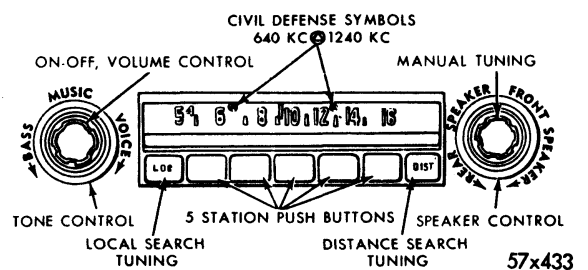
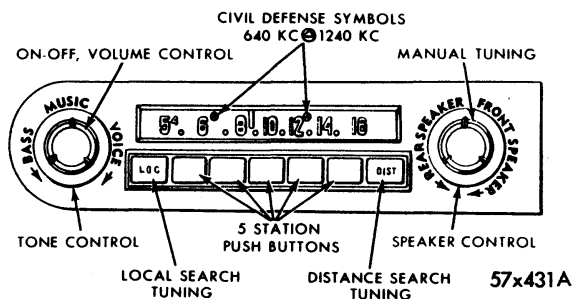
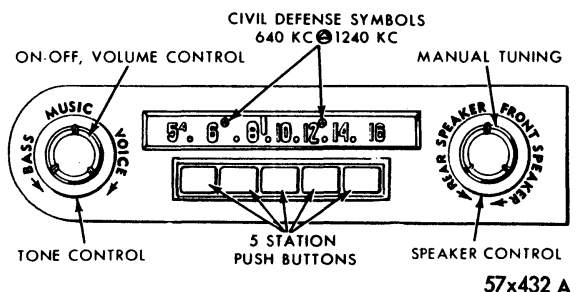

Fig. 2—Operating Controls 924
Fig. 1—Operating Controls 922
Fig. 3—Operating Controls 851
The Electro Touch-Tuner (Model 922) (Fig. 1) and (924) (Fig. 2), have six tubes and two transistors. It includes a variable tone control with manual tuning, push button tuning and automatic search tuning. The Music Master (Model 851) (Fig. 3) has five tubes and one transistor. It includes a variable tone control with manual tuning and push button tuning.